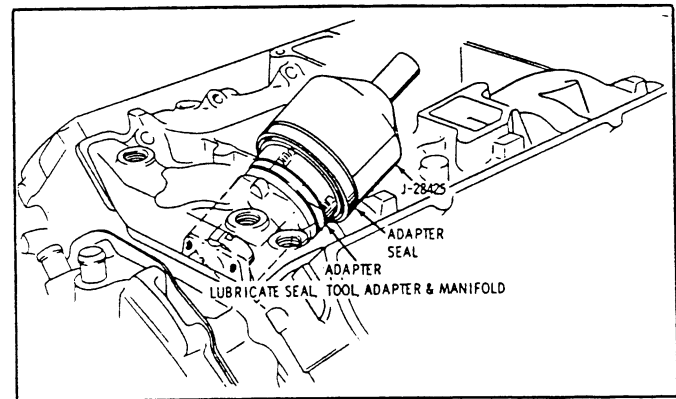

Fig. 12 Installing Adapter Seal
13. Pump adapter and seal (Figure 12)